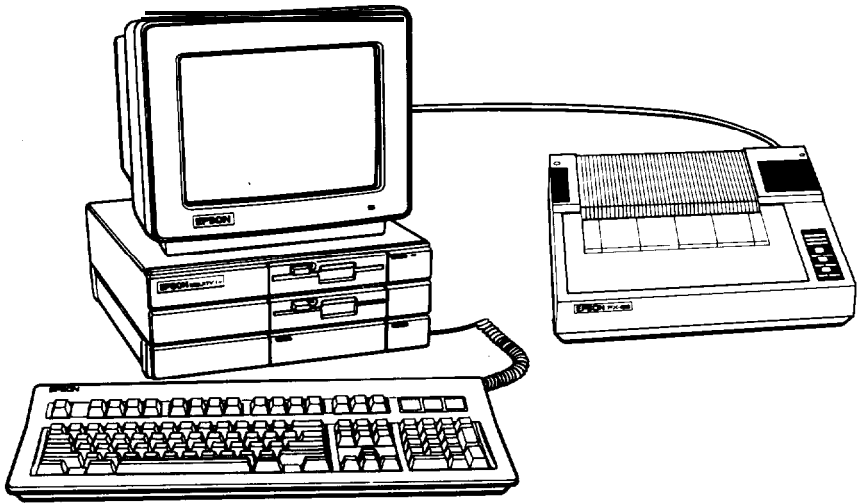

Figure 1-9. Locating the printer
1. Place the printer in a convenient location next to your system, as shown in Figure 1-9 for example.